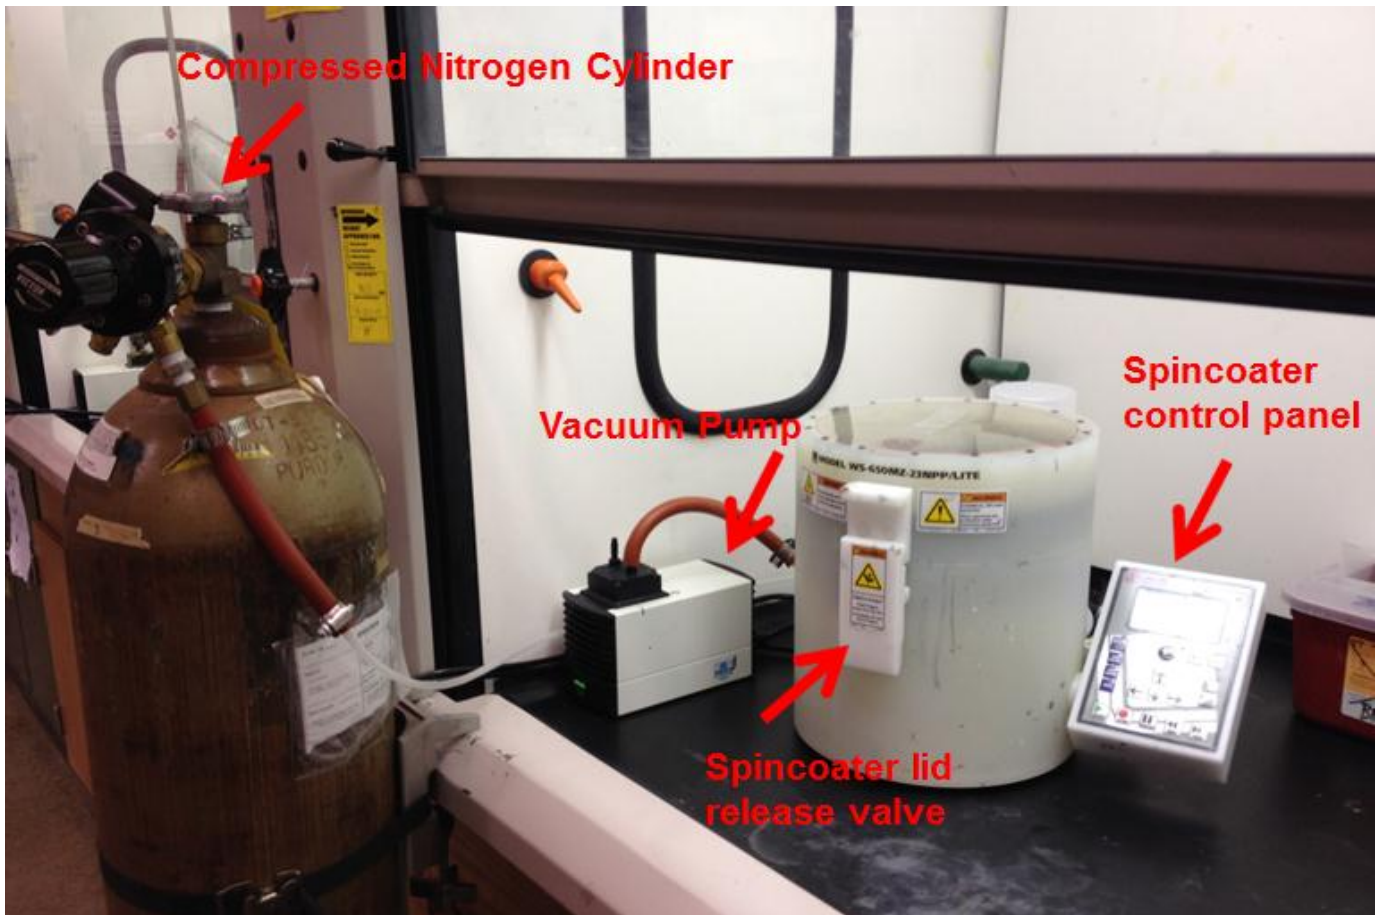

Figure 2. Schematic for Spincoater
- Refer to Figure 2 for schematic of spincoater